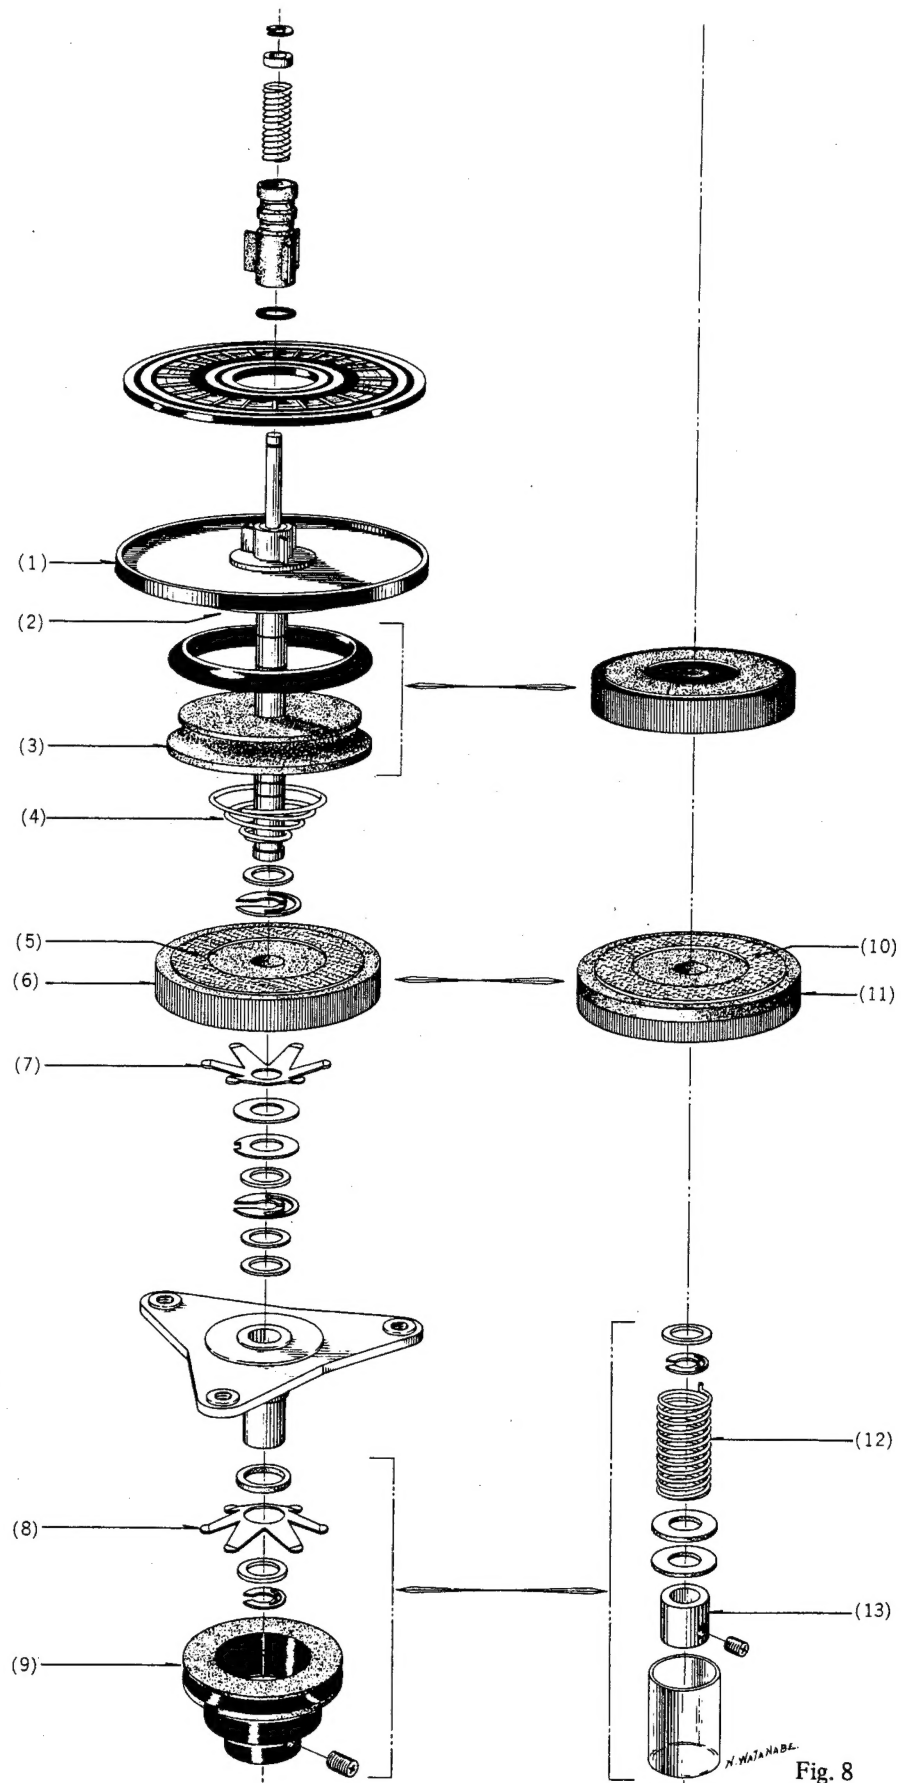

Fig. 8
2. SUPPLY REEL SHAFT ASSEMBLY ADJUSTMENT (See Fig. 8 at left)
3. TAKE-UP REEL SHAFT ASSEMBLY ADJUSTMENT (See Fig. 8 at right)